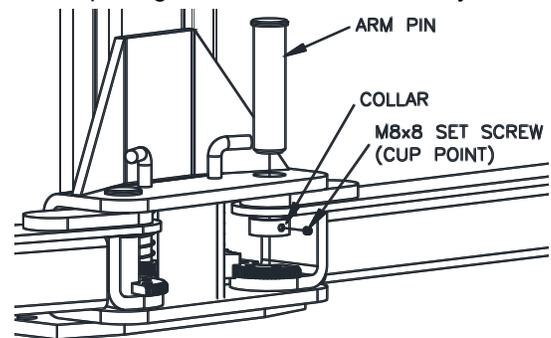

Fig. 11 – Arm Install
34) Lubricate the arm pin or carriage arm pin hole with “anti-seize” and install the arms as shown in Fig 11. Once the set screw is finger tight against the arm pin, tighten 1/4 turn with hex key.